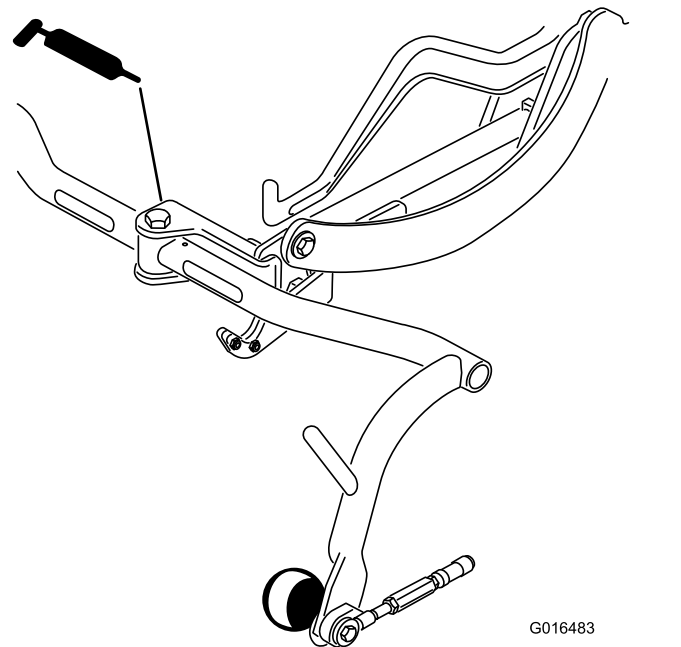

Figure 32
- Carrier frame pivot (3) (Figure 32)